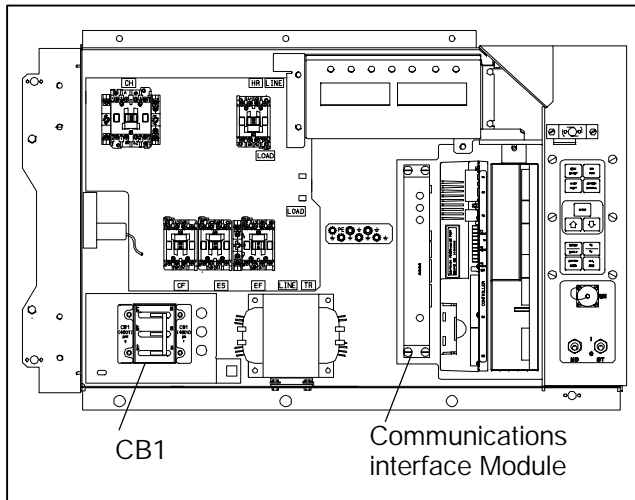

Figure 6-30. Communications Interface Installation
- Open control box, see Figure 6-30 and remove low voltage shield. Open high voltage shield.